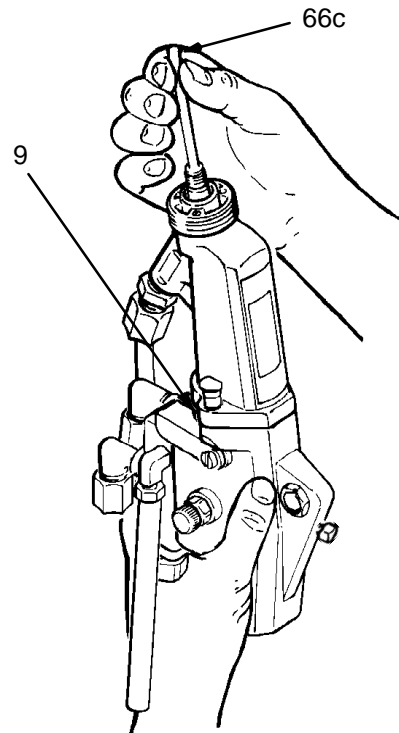

Fig 10
2. Unscrew and remove the electrode (14) with the wrench (66c) supplied. See Fig 10. If the needle shaft assembly (9) turns while trying to loosen the electrode, hold the needle shaft assembly nut with a small wrench.
3. Install the new electrode (14) with the wrench (66c). Do not over tighten.